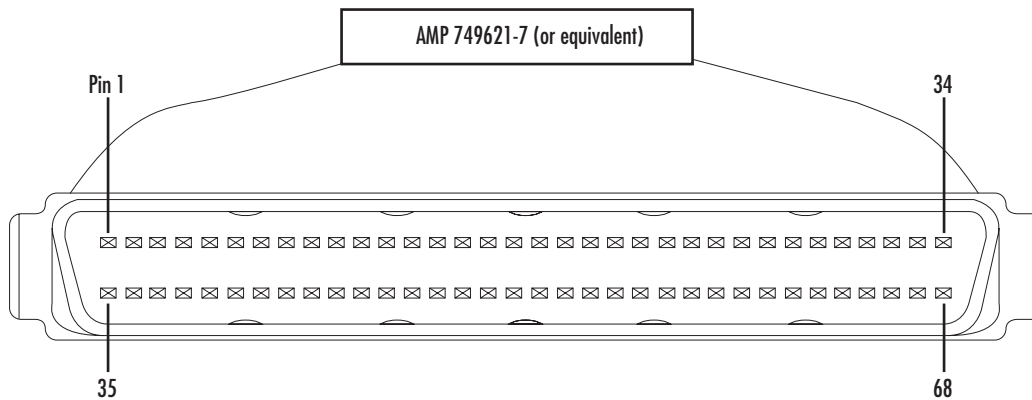
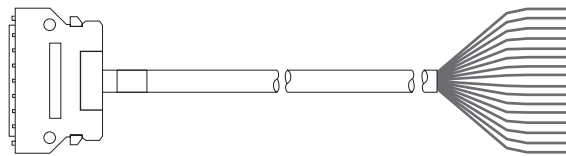

Figure 10. WAN cable's 68-pin SCSI connector
Figure 11. 68 pin SCSI-to-RJ45 6-foot WAN cable
1. Connect the 68-pin SCSI connector (figure 10) of the 6-foot WAN cable (figure 11) to the connector on the rear panel of the Model 3096RC